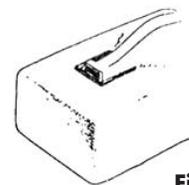

Fig. 14
14. Using a small brush, carefully vibrate investment into the female and the crown. Place the casting horizontally into a mass of investment and cover the casting and faceplate, leaving the sticky waxed area exposed (Fig 14).